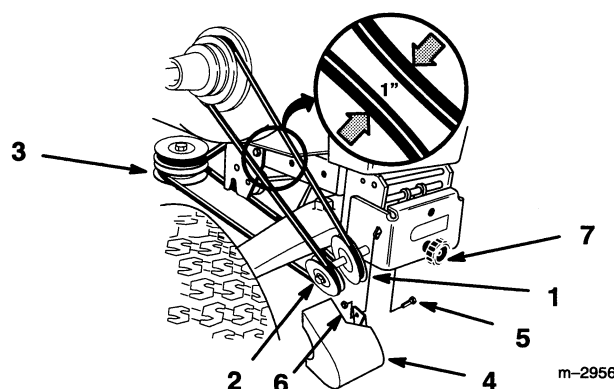

Figure 10
9. Remove idler belt cover (Fig. 10). Save mounting hardware.
10. Route belt, from lower mower pulley, around V and flat pulleys.(Fig. 10).
11. Turn knob counterclockwise to tighten belt (Fig. 10). Tighten until there is 1" (26 mm) space between engine clutch and idler pulley when slight pressure is applied to the belt.
12. Install idler belt cover with previously removed bolt and locknut (Fig. 10).